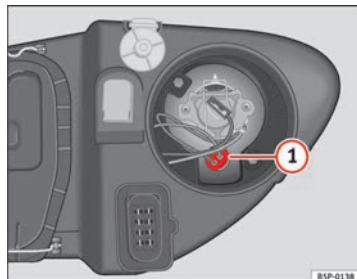

Fig. 184 Side light
- Extract the bulb holder ⇒ Fig. 184 **1** outwards.